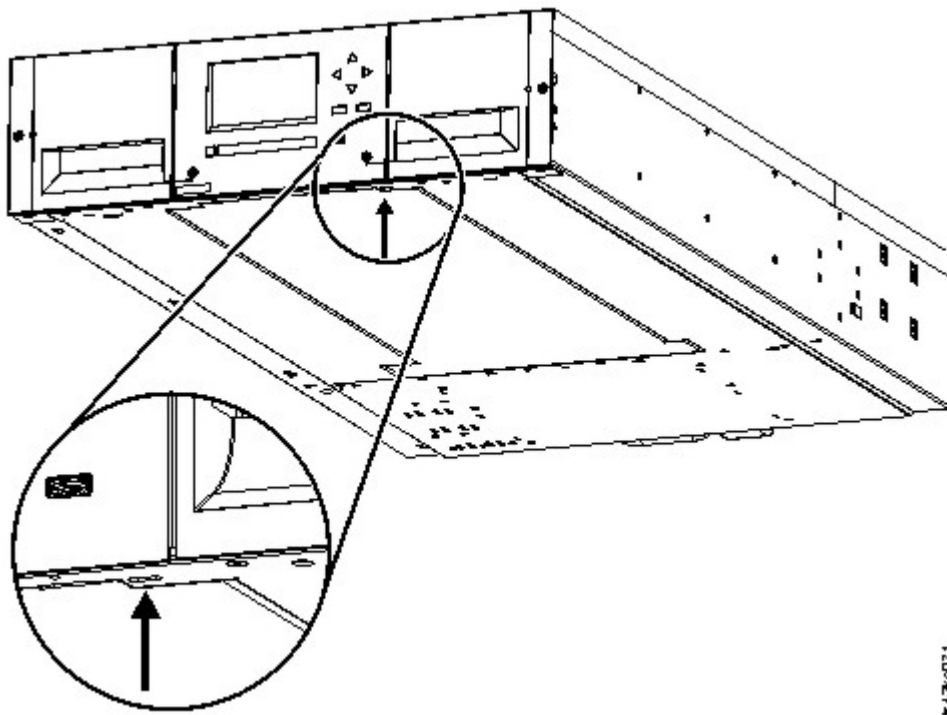

Figure 32. Unlocking the spring loaded lock
- c. Support the bottom cover with one hand. Insert a small flathead screwdriver or Torx screwdriver into the hole and slide about 4 mm sideways to the left to unlock the spring loaded lock. See Figure 32 on page 44.